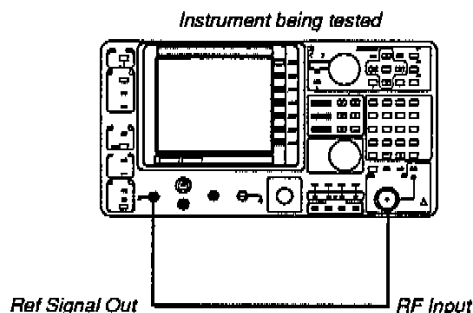

Figure 4-14. Test Setup for Center Frequency Accuracy Check.
2. Connect the 012-0649-00 50 Ω cable from the REF SIGNAL OUT connector of the instrument to the RF INPUT connector (as shown in Figure 4-14).
2. The instrument calibrator signal should still be connected to the RF INPUT connector from the last check. If it is not, connect the 012-0649-00 50 Ω cable from the REF SIGNAL OUT connector to the RF INPUT connector (as shown in Figure 4-14).